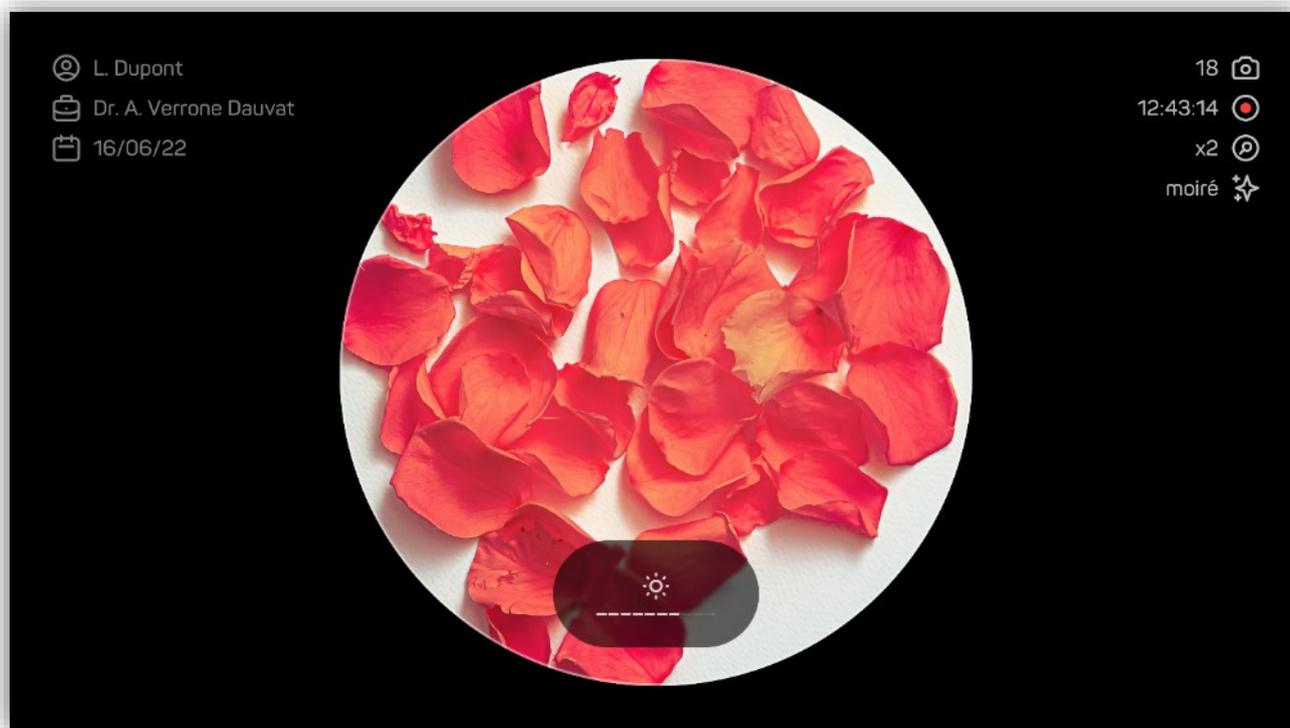

Figure 8 - Light intensity change
- Use the "+" [5] and "-" [4] buttons from the control unit right side to increase or decrease the light intensity (see Figure 8).